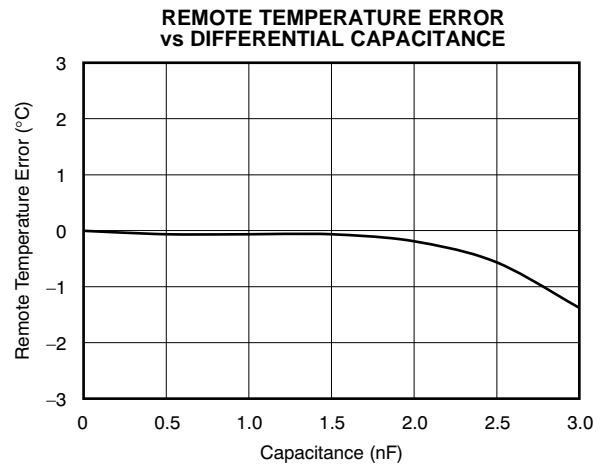

Figure 6.
(1) Diode-connected configuration provides better settling time. Transistor-connected configuration provides better series resistance cancellation.
(2) R_S (optional) should be $< 1.5\text{k}\Omega$ in most applications. Selection of R_S depends on application; see the Filtering section.
(3) C_{DIFF} (optional) should be $< 1000\text{pF}$ in most applications. Selection of C_{DIFF} depends on application; see the Filtering section and Figure 6, Remote Temperature Error vs Differential Capacitance.
(2) R_S (optional) should be $< 1.5k\Omega$ in most applications. Selection of R_S depends on application; see the Filtering section.
(3) C_{DIFF} (optional) should be $< 1000pF$ in most applications. Selection of C_{DIFF} depends on application; see the Filtering section and Figure 6, Remote Temperature Error vs Differential Capacitance.
(4) TMP422 SMBus slave address is 1001 100 when connected as shown.
The TMP421/22/23 tolerate differential input capacitance of up to 1000pF with minimal change in temperature error. The effect of capacitance on sensed remote temperature error is illustrated in Figure 6, *Remote Temperature Error vs Differential Capacitance*.